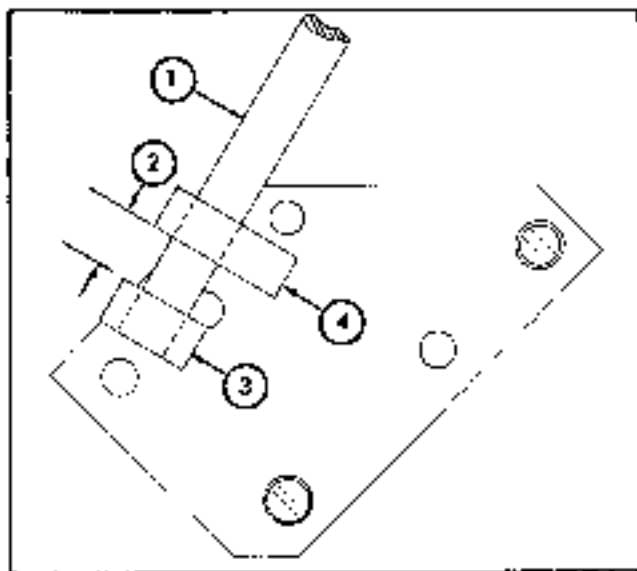

Fig. 1-42. Lever location
i. Check location of lever (4, figure 2-13B) in relation to lug for lower end of lever (1) on support (11). If ball joint (5) is used, with nut on top of lever (4), a dimension of 5/16" must be maintained between upper edge of lever (4) and bottom edge of lug. Fig. 1-42.
j. If ball joint (8) is used, with nut on bottom side of lever (4), a dimension of 1-1/8" must be maintained between the lever and lug. Fig. 1-42.